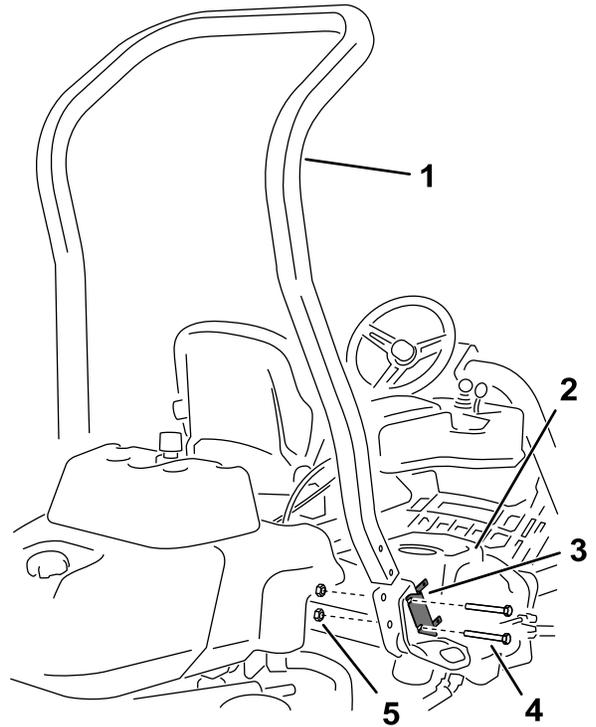

Figure 3
4. Remove the 2 bolts securing the fuse block bracket to the ROPS pocket as shown in Figure 3.